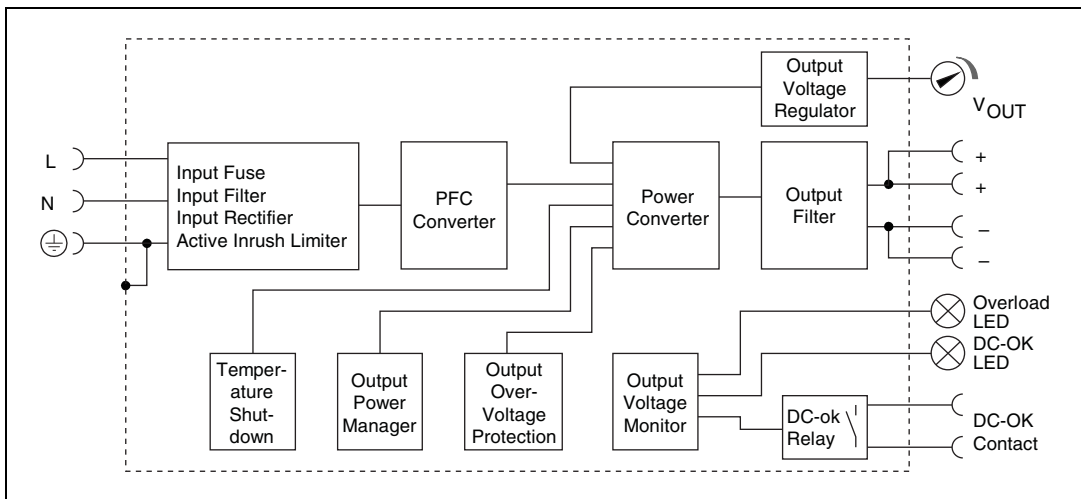
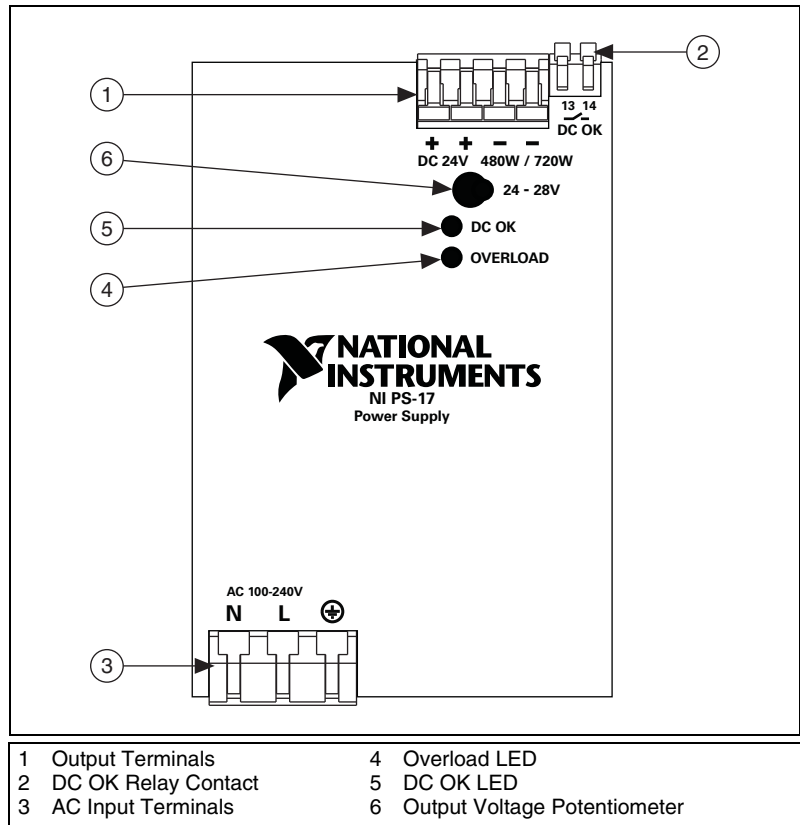

Figure 1-1. Functional Diagram for the NI PS-17 Power Supply
Figure 1-2. Front View of the NI PS-17 Power Supply
Figures 1-1 and 1-2 show the functional description and front panel features of the NI PS-17 power supply.
The NI PS-17 has a total of four output terminals, providing two positive (+) output terminals and two negative (-) output terminals. Both positive terminals are wired together internally, and both negative terminals are wired together internally, as shown in Figure 1-1. The output terminals provide 24 V_{DC} with 20 A of current.
Output voltage from the NI PS-17 is set by the output voltage potentiometer, shown in Figure 1-2. The factory setting output voltage is 24.1 V \pm 0.2% (at full load when the power supply is cold), and the
The NI PS-17 power supply derives power through the input terminals on the front panel, shown in Figure 1-2. There are three terminals corresponding to the Neutral input, the Line (or hot) input, and the Protective Earth (PE) input. The NI PS-17 rectifies both single-phase and two-phase AC input. The Neutral input terminal provides a MAINS return path for the input circuitry. The Line input is the primary power input for the supply. The PE input corresponds to an earth ground. As shown in Figure 1-1, the power supply case itself is grounded to the PE input.